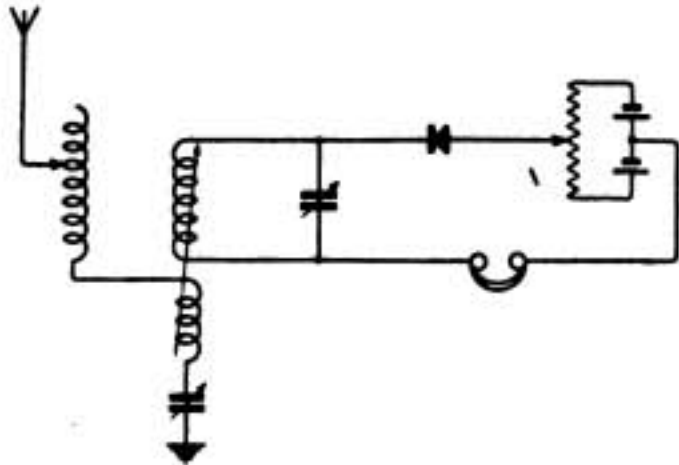

Fig. 2.
(1) No. Connect as in diagram, Fig. 2. (2) As
(1) No. (2) Yes, unless the L.F. resistance capacity amplification is used, in which the preference is determined by the kind of results required, i.e., L.F. for very loud signals, H.F. for making very weak signals audible. (3) 0.0005 mfd. across the A.T.I. We prefer to omit a condenser across the reaction coil, but a similar value can be used if desired. (4) PCGG possibly. 2 MT doubtful, owing to the smaller propagation efficiency of the shorter wavelength now used.
"IVY" (Birmingham).—(1) Refers to Circuit Fig. 2, page 154, April 29th issue, and asks whether it would be more efficient to make use of the potentiometer for grid control instead of grid condenser and leak. (2) If it is possible to obtain a calibration card for a Marconi type 16 receiver. (3) Wire for intervalve transformer 500 to 5,000 metres.
(1) Yes, potentiometer control should be quite satisfactory and if the valve is at all "soft" you might obtain better results. (2) We do not think so, as you no doubt purchased the instrument second-hand, but we should imagine that you would have no difficulty in calibrating the set yourself from a standard wavemeter or putting it in the hands of a laboratory that undertakes wireless calibration work. (3) For an aperiodic transformer with optimum wavelength of 2,000 metres use No. 40 S.S.C. "Eureka" wire winding a single layer on an ebonite tube former 5" long x 2" diameter for primary and a similar length of winding for secondary with empire cloth insulation between windings.